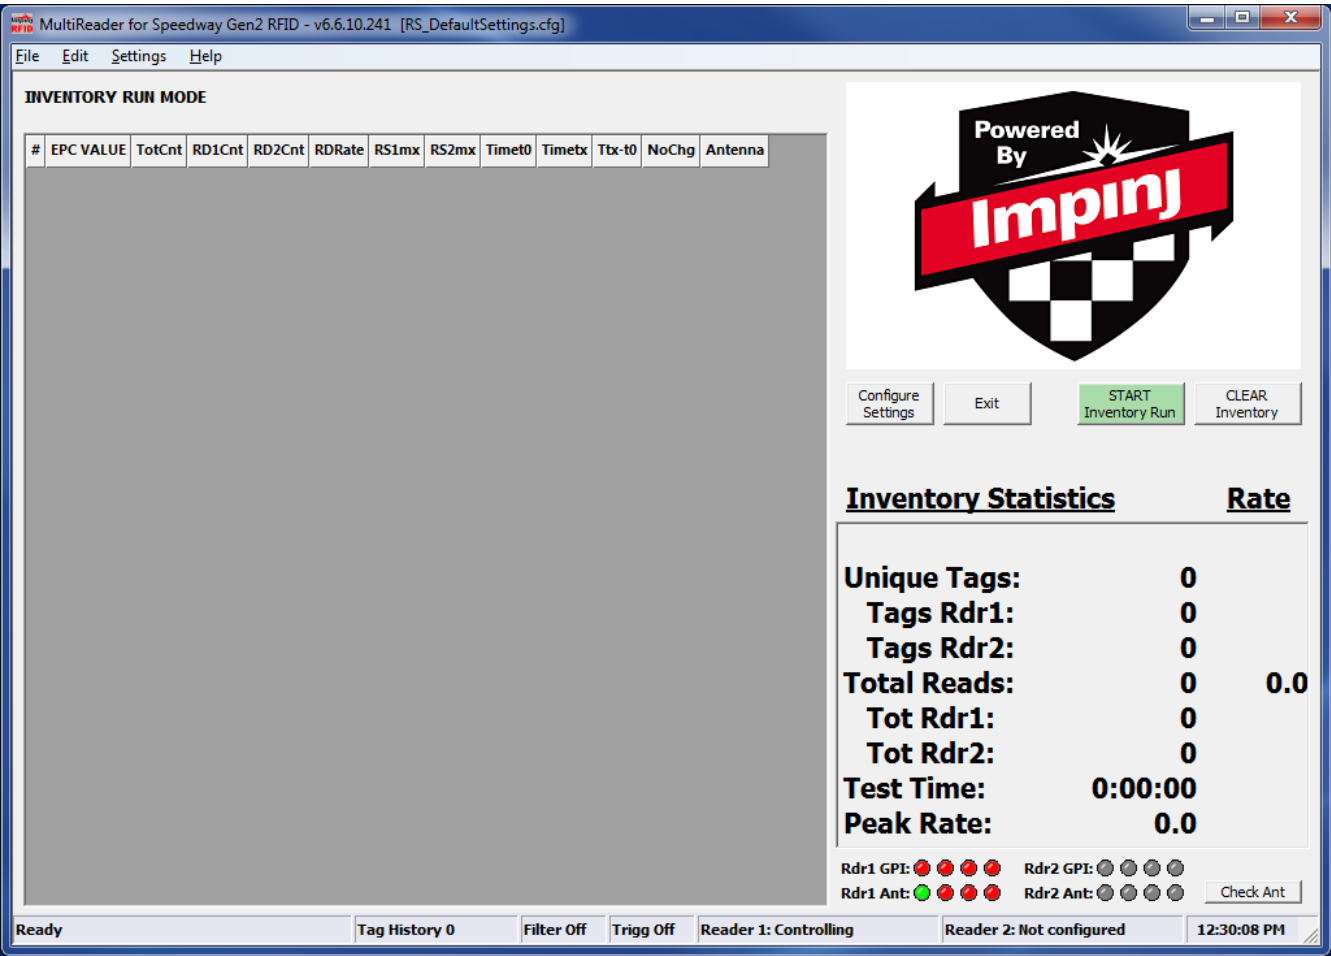

Figure 6.1 MultiReader initial screen
1. Install and launch the MultiReader application. The screen shown in Figure 6.1 displays.